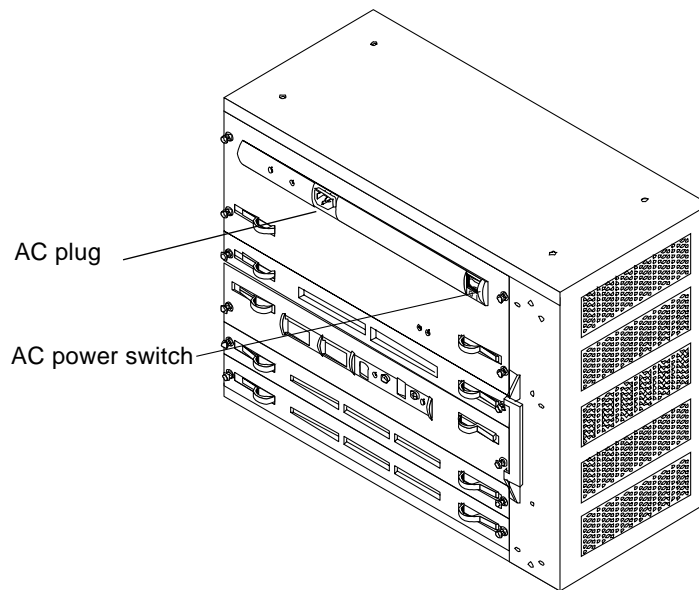

Figure 7-13 SPARCstorage Array Model 200 Series Power Supply Switch
See Figure 7-13.
- a. RSM: position the RSM Power on/off switch located on the operator panel to On. See Figure 7-13 on page 7-18.